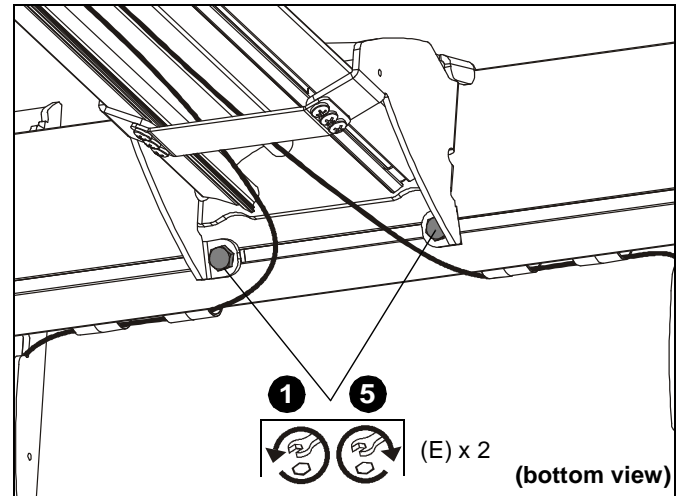

Figure 63
1. Loosen two 1/4-20 x 5/8" hex head cap screws (E) on underside of mounting bracket. (See Figure 63)
5. Tighten two 1/4-20 x 5/8" screws (E) on underside of mounting bracket. (See Figure 63)